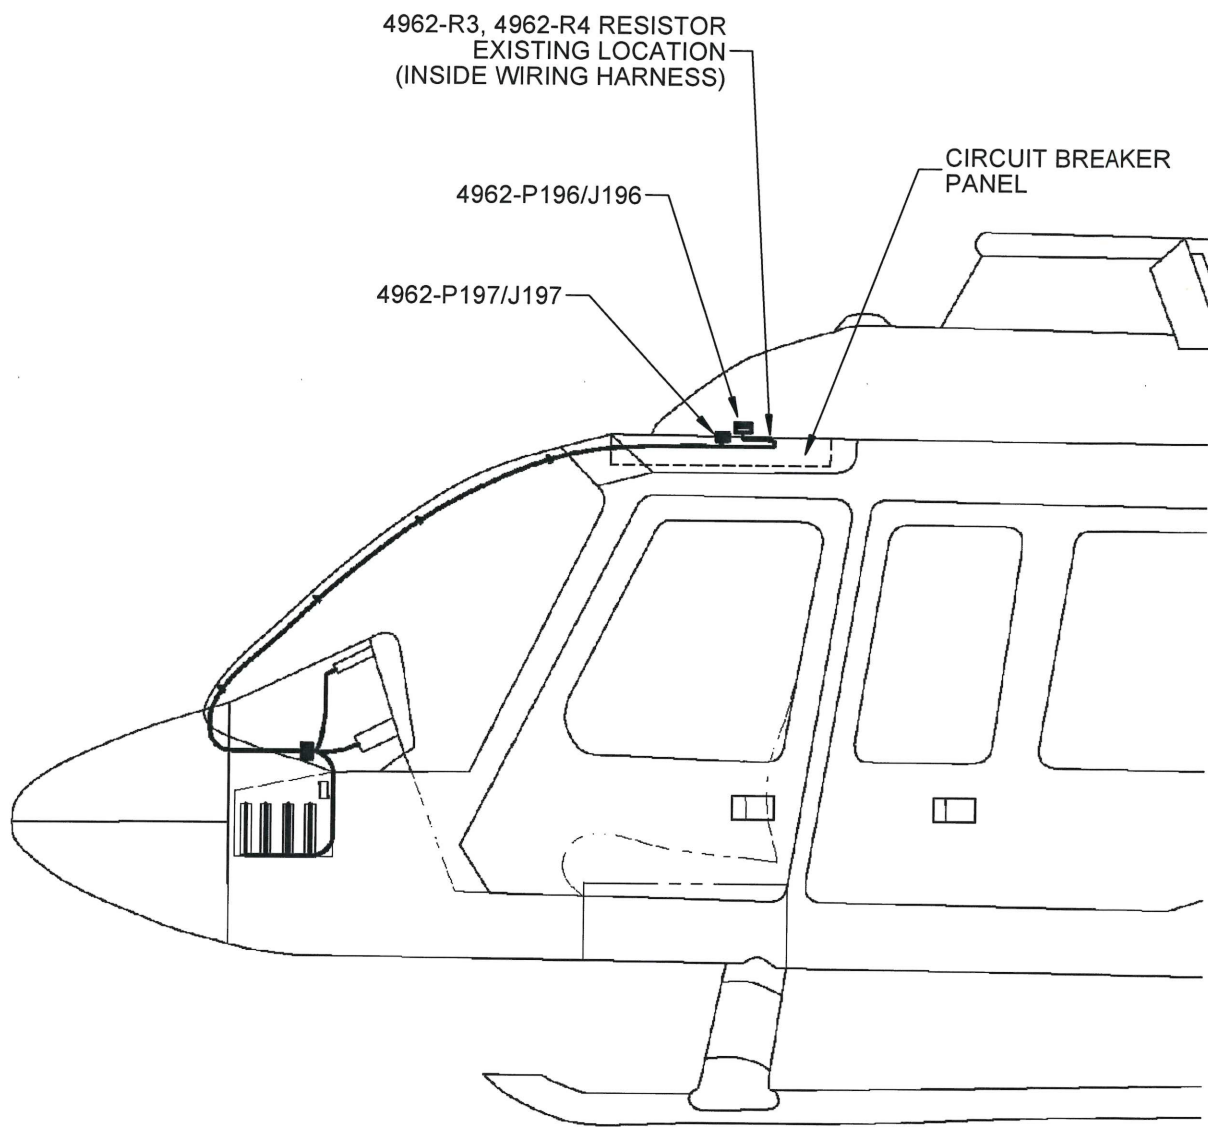
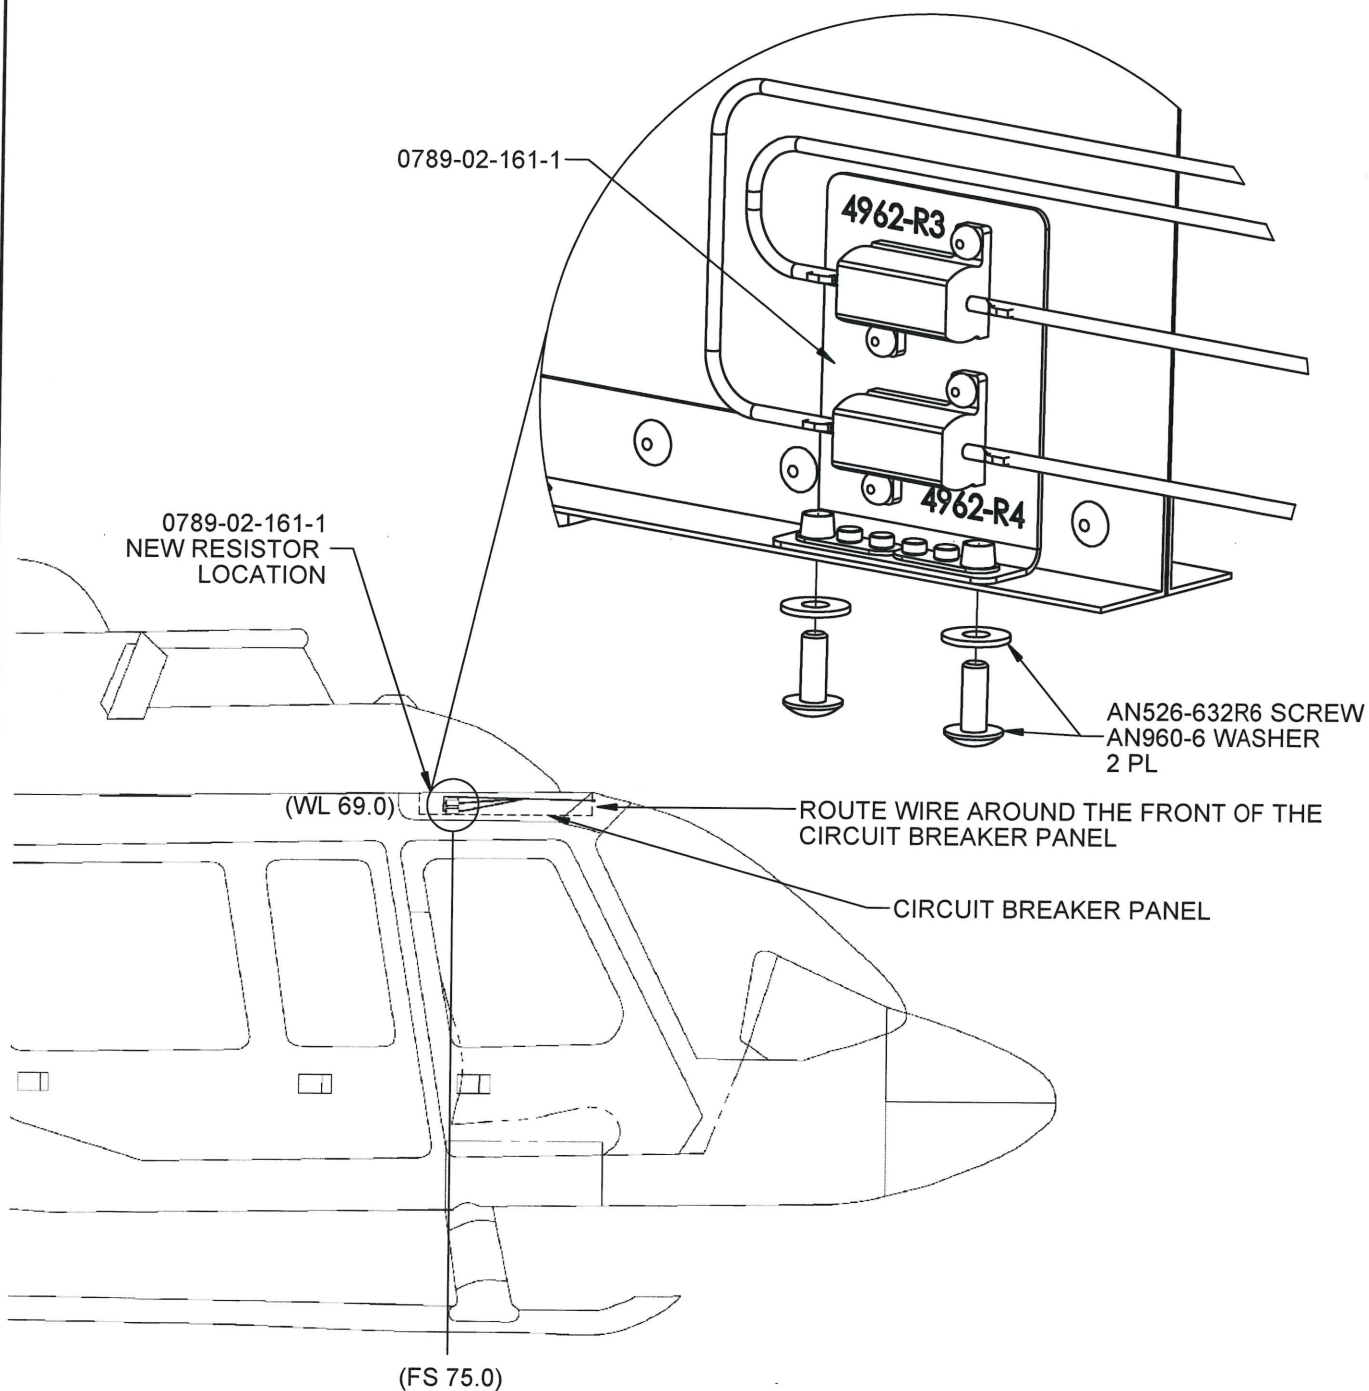

FIGURE 1: EXISTING WIRE ROUTING
FIGURE 2: NEW RESISTOR MOUNTING LOCATION
2. Gain access to the existing 4962-R3 and 4962-R4 resistors, located near 4962-J196, by removing the left side (co-pilot) headliner, as shown in Figure 1, IAW BHT-407-MM.
5. Mount 0789-02-161-1 Resistor Assembly along the top of the circuit breaker panel angle, as shown in Figure 2, using (2) AN526-632R6 screws and (2) AN960-6 washers.
6. Following the existing wire bundle and using the included wire spoon, route the new wires around the front of the circuit breaker panel to the 4962-J196 area, as shown in Figure 1 and Figure 2. Ensure all clamps are sized appropriately and any removed cable ties are re-installed.